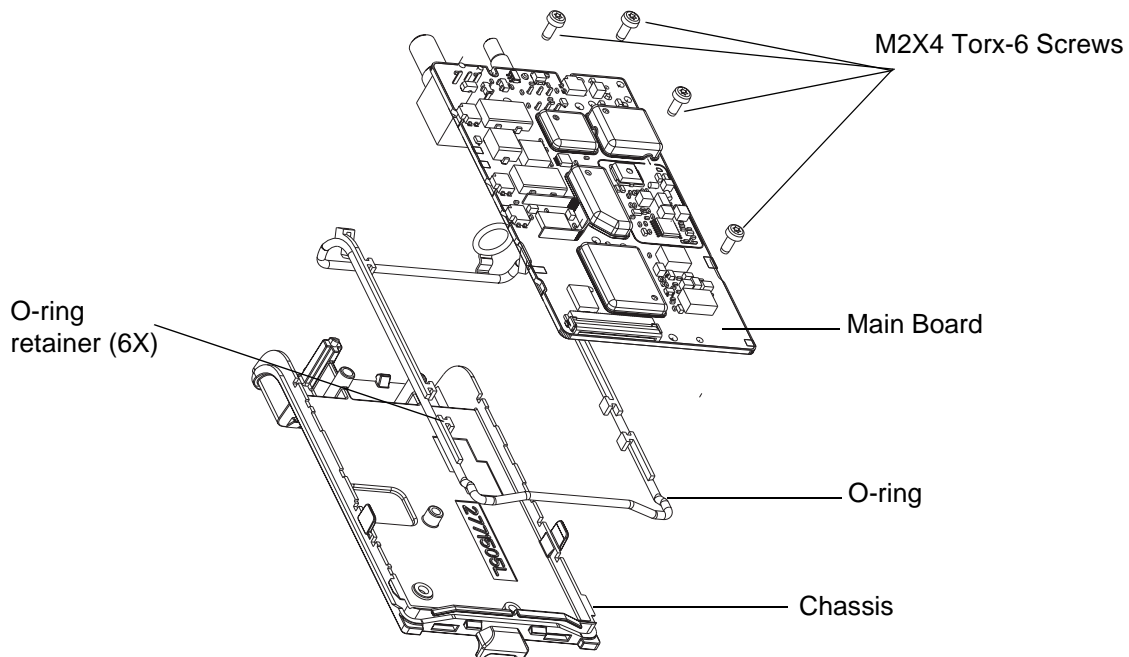

Figure 3-30 Remove Main Board from Chassis
1. Lift the main board from the chassis (See Figure 3-30).